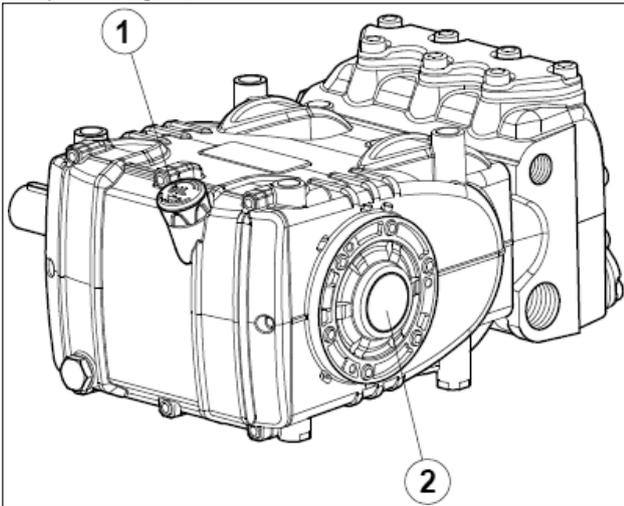

Fig. 15
- Oil in the pump casing is at level, verified with a dipstick (pos. ①, Fig. 15) and exceptionally with a level indicator (pos. ②, Fig. 15).